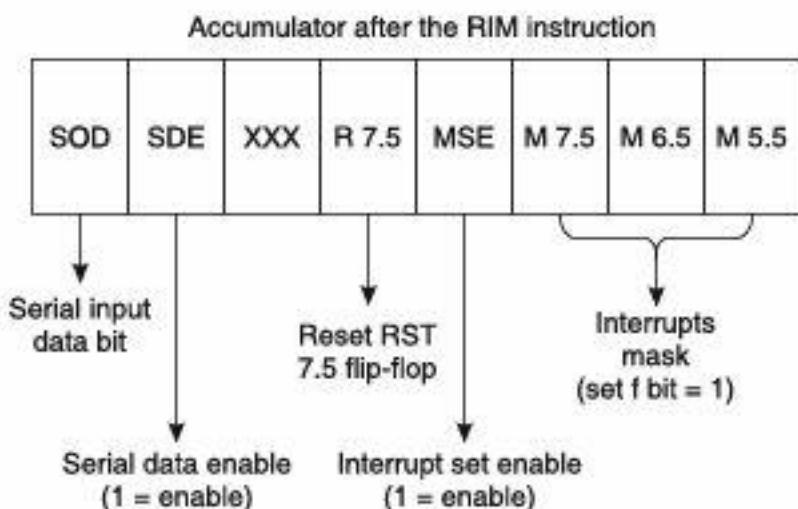

Fig. A2 The SIM Instruction Accumulator Layout
**Description:** This is an instruction that is used to set the interrupt masks as well as set the serial output data bit. The accumulator is laid out as shown in Fig. A2.